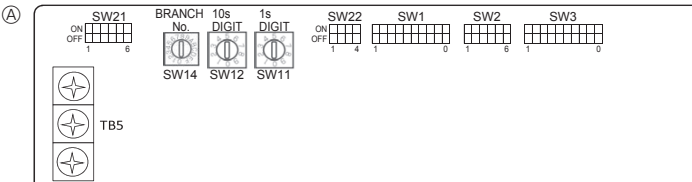

Fig. 5-6
5.5. Setting addresses (Fig. 5-6)
- ① How to set addresses
- ② How to set branch numbers SW14 (Series R2 only)
5.6. Switch setting for high ceiling or at the time of changing the number of air outlets (Fig. 5-6)
5.7. Sensing room temperature with the built-in sensor in a remote controller (Fig. 5-6)